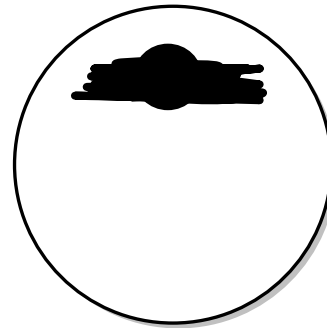

Fig. 5
3. Cross-streak the specimen (Fig. 5) and proceed with streaking for isolation as outlined below in section 4.6.